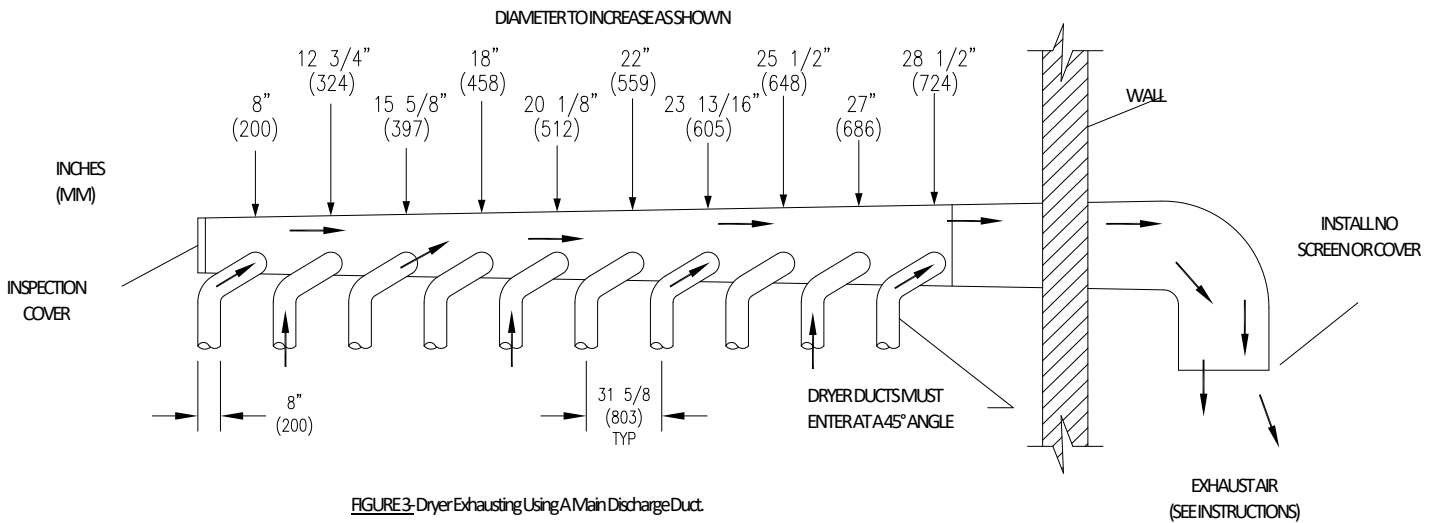

FIGURE 3- Dryer Exhausting Using A Main Discharge Duct.
6. EXHAUST INSTALLATION. (Refer to Figure 3) Exhausting of the dryer(s) should be planned and constructed so that no air restrictions occur. Any restriction due to pipe size or type of installation can cause slow drying time, excessive heat, and lint in the room.
Installation of several dryers, where a main discharge duct is necessary, will need the following considerations for installation (see Figure 3). Individual 203 mm (8 in.) exhaust ducts from each dryer should enter the main discharge duct at a 45-degree angle in the direction of discharge airflow.
NOTE: Never install the individual 203 mm (8 in.) ducts at a right angle into the main discharge duct. The individual ducts from the dryers can enter at the sides or bottom of the main discharge duct. Figure 3 indicates the various round main duct diameters to use with the individual dryer ducts. The main duct can be rectangular or round, provided adequate airflow is maintained. For each individual dryer, the total exhausting (main discharge duct plus duct outlet from the dryer) should not exceed the equivalent of 4.27 m (14 ft.) and two elbows. The diameter of the main discharge duct at the last dryer must be maintained to exhaust end.